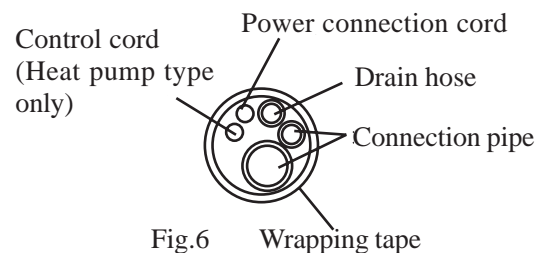

Fig.6
- 2.Wrap the piping and wiring and pull them through the cut-off-tailings hole (shown in Fig.6).